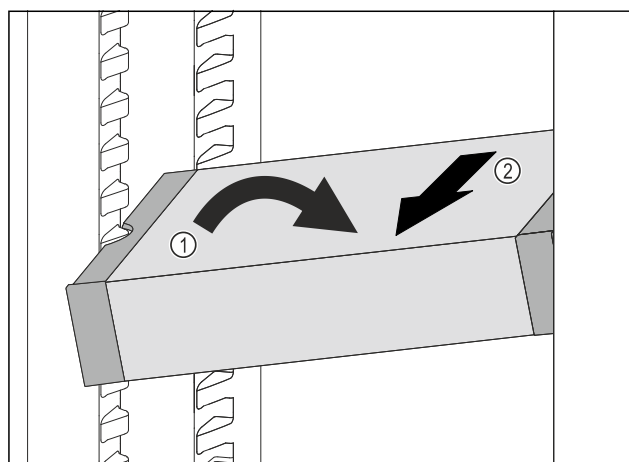

Fig. 109
- Set VarioSafe in refrigerator compartment at an angle. Fig. 109 (1)
- Take VarioSafe out to the front. Fig. 109 (2)